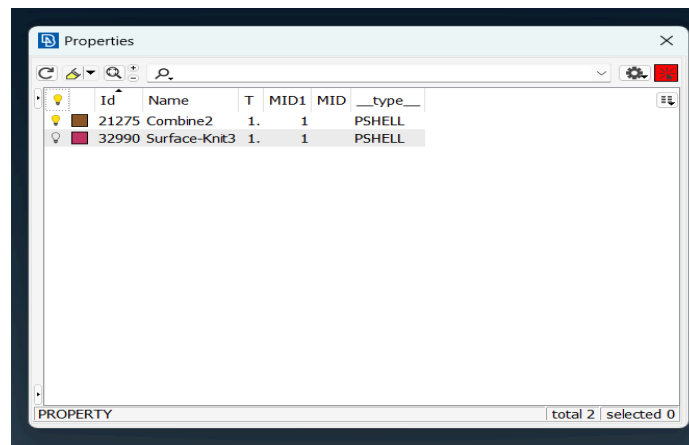

Fig 1- Property card.
Step 6- Checked for number of properties – **ctrl+P** (shown in fig 1)